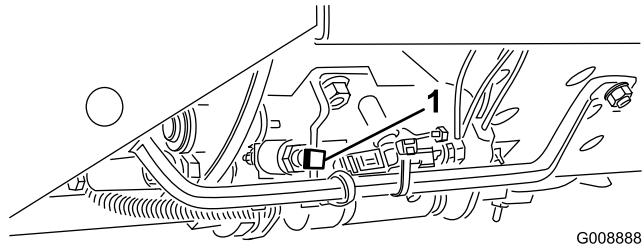

Figure 31
**Important:** The mow speed is set at the factory to 9.7 km/h (6 mph). It can be increased or decreased by adjusting the speed stop screw (Figure 31).